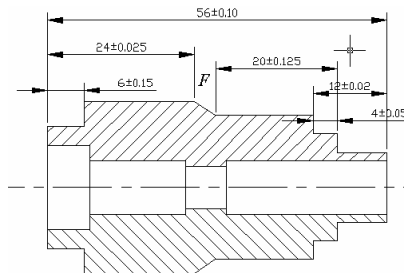

Fig. 3
- b) Fig.3 shows a part design with assigned tolerances. Use the arithmetic method to calculate the tolerance information for the axial dimension F of the outside surface shown.